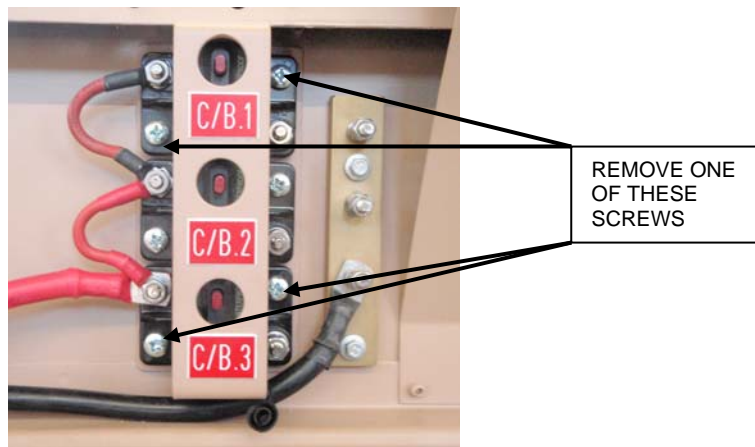

Figure 1 Screws To Be Removed
10. Items to be Removed. Four M6 x 25 mm screws and Nyloc nuts as shown in Figure 1 are to be removed. All stores removed are to be processed in accordance with the ESCM, Volume 4, Section 3 – Supply Management Processes, Stores Accounting General.
- b. Remove an M6 x 25 mm screw from one side of circuit breaker one and three, designated C/B.1 and C/B.3 (Figure 1).